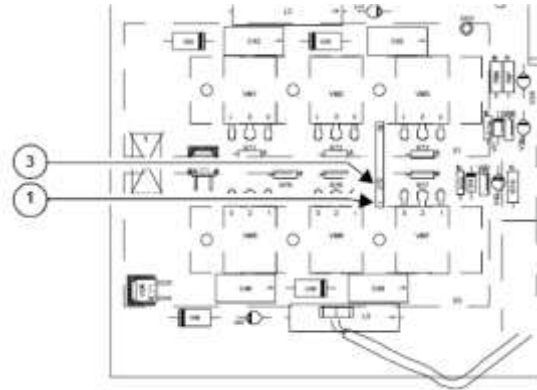

Fig. 8
2. Now set the oscilloscope with a range of 5V/DIV and connect the probe between points XT2-3 (GND) and XT2-1(probe) (Fig. 8), connect the machine to the power supply,
- Connect the generator to the resistive load: the load must be regulated so that the voltage on the load, with maximum current, is between 20V and 25V. Apply oscilloscope probe as in Fig. 8